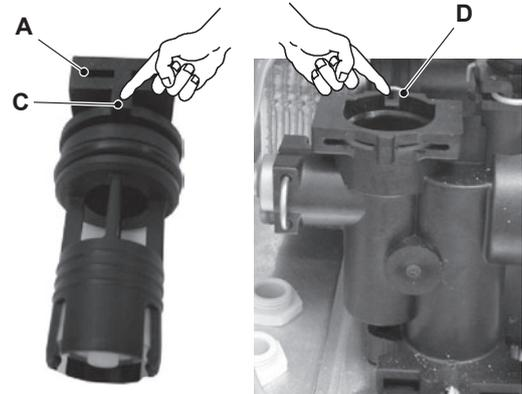

Figure 16.3
**Attention:** when reassembling the By-pass valve be sure that it is correctly oriented by matching the reference C with the notch D of the water group Figure 16.3.